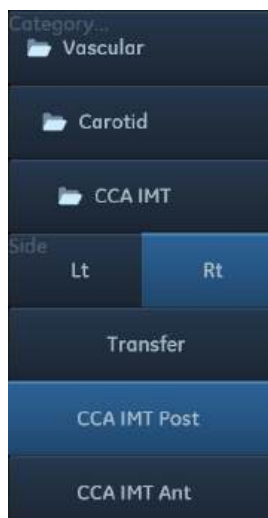

Figure 8-63. IMT Measurement menu (Right Common Carotid Posterior IMT measurement tool)
5. Select the appropriate IMT measurement. If measuring the IMT of the posterior wall of the right common carotid select **Rt** and **CCA IMT Post** (Figure 8-63).